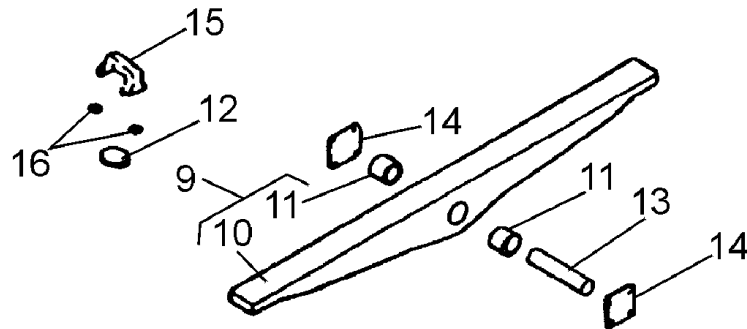

Fig. 14.32. Exploded View of Equalizer Bar
36. REMOVAL AND DISASSEMBLY (Refer to Fig. 14.32)
38. REASSEMBLY AND INSTALLATION (Refer to Fig. 14.32)